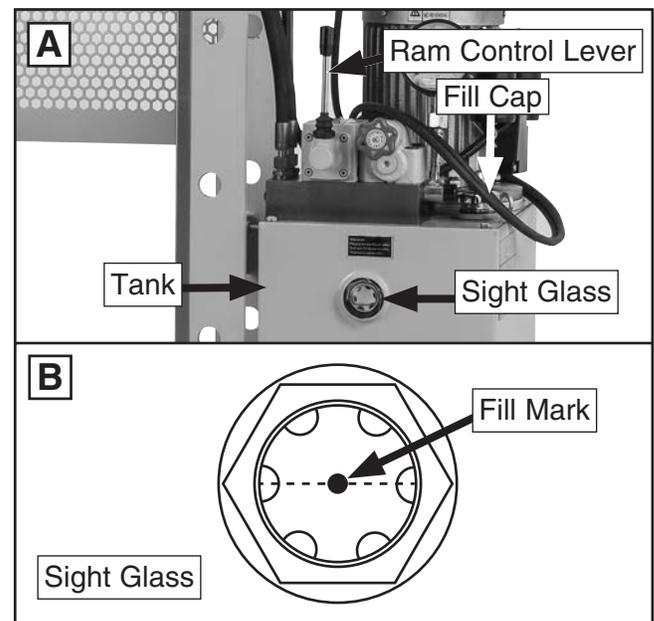

Figure 14. Location of ram control lever and sight glass.
- Fully extend, then retract ram using ram control lever (see **Figure 14**).